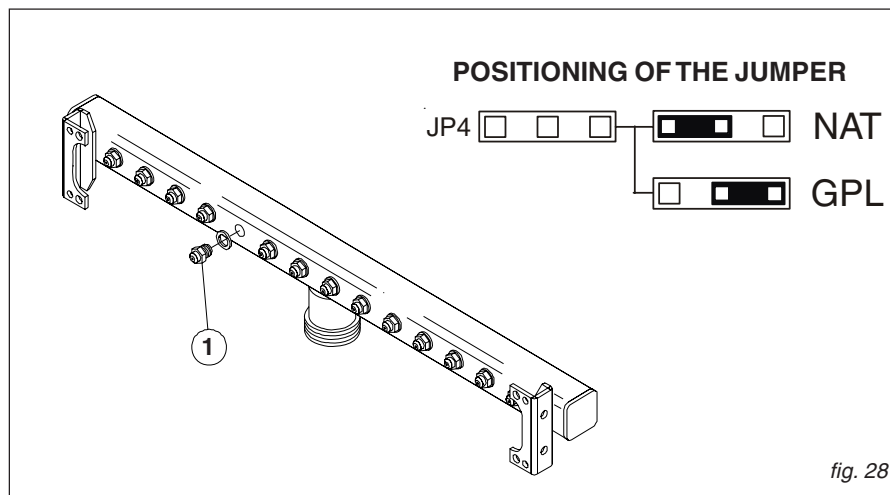

fig. 28
- get access to the modulating PCB inside the panel board and position the jumper shown in the fig. 28;